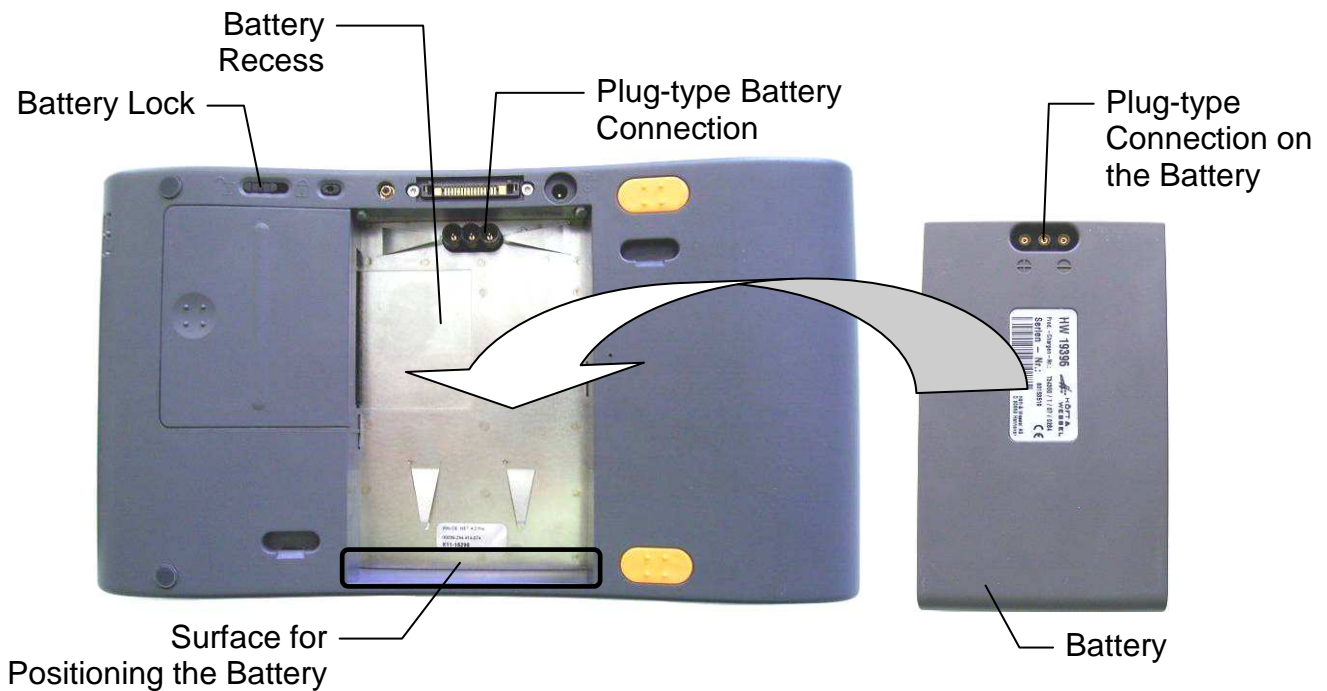

Fig. 10: Rear view of skeye.pos mobile with battery removed
2. Place a charged battery with the rounded side facing downwards in the area marked (see Fig. 10) at an angle of approx. 45° or less.